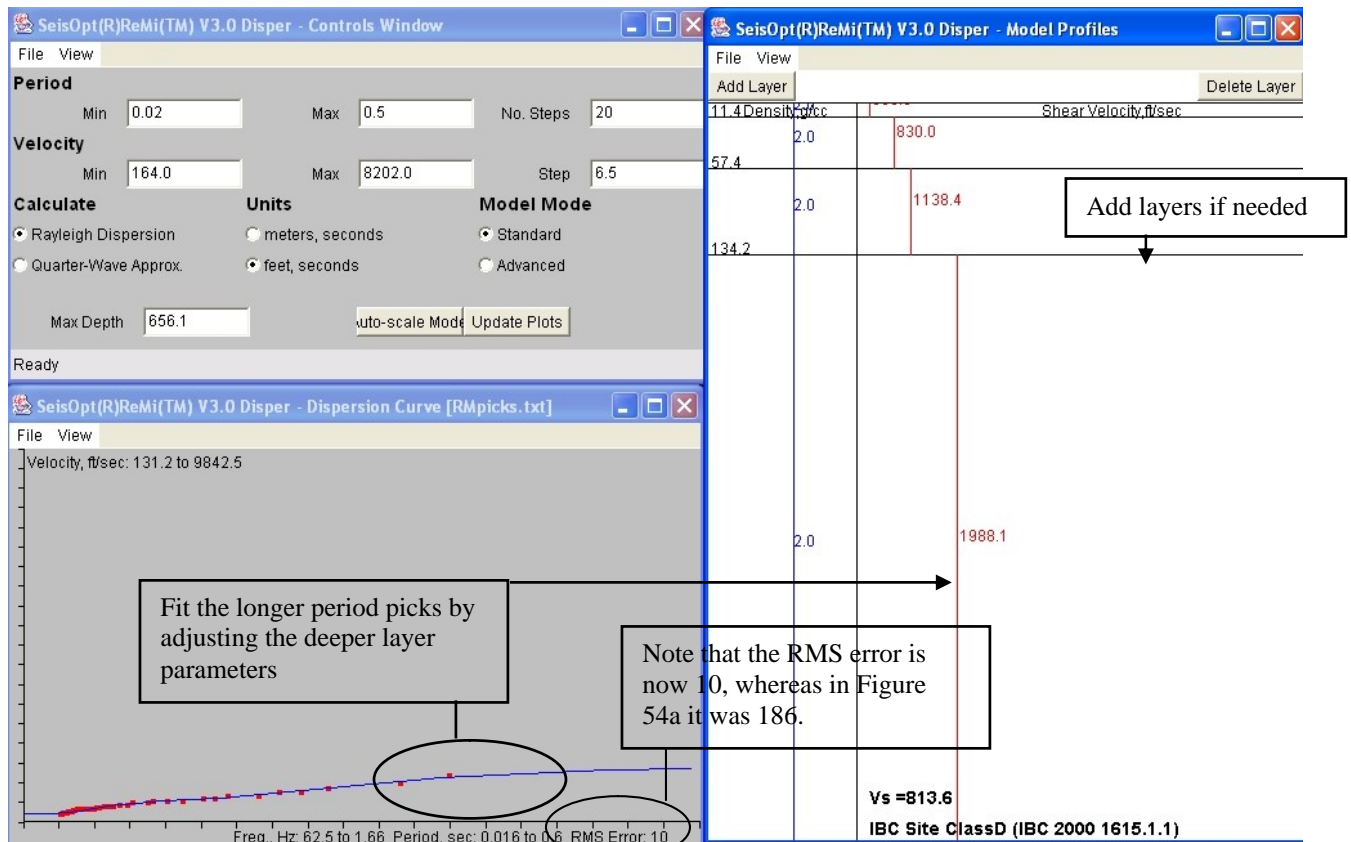

Figure 54c: Lastly fit the longer-period picks by adjusting the deeper layers
11. Repeat this process until all the picks are matched (Figure 54c). Usually the last few, longer period, picks are least constrained, since they sample the deepest part of the model. There is bound to be trade-off between the layer velocity and the interface depth, especially for the deeper layers.
14. Set the Period Min and Max bounds to values outside the range of periods in your picks. Move the cursor to the pick location to find out these values. For the dispersion picks shown in Figure 54c these might be 0.02 to 0.35 seconds.